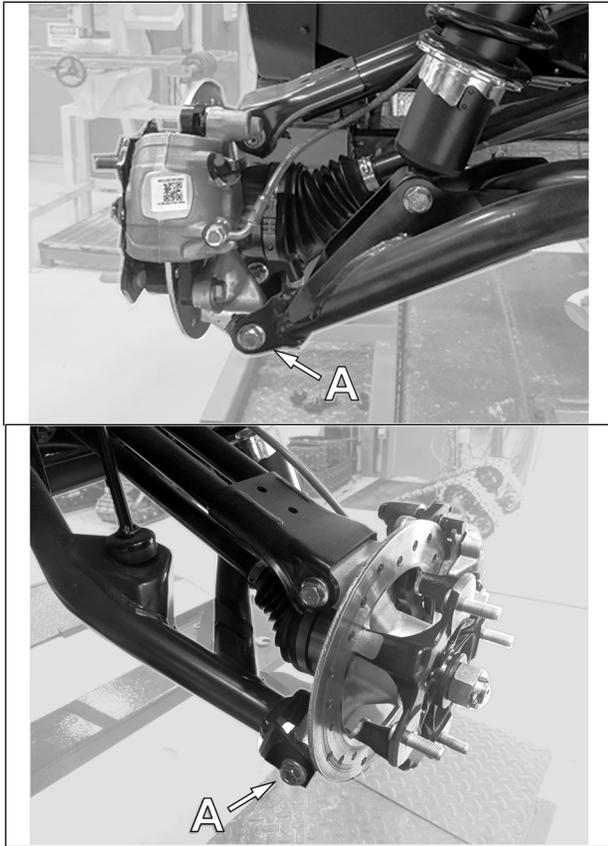

Fig. 5
5. Remove bolts (A) that link lower suspension arm to wheel knuckle. See Fig. 5